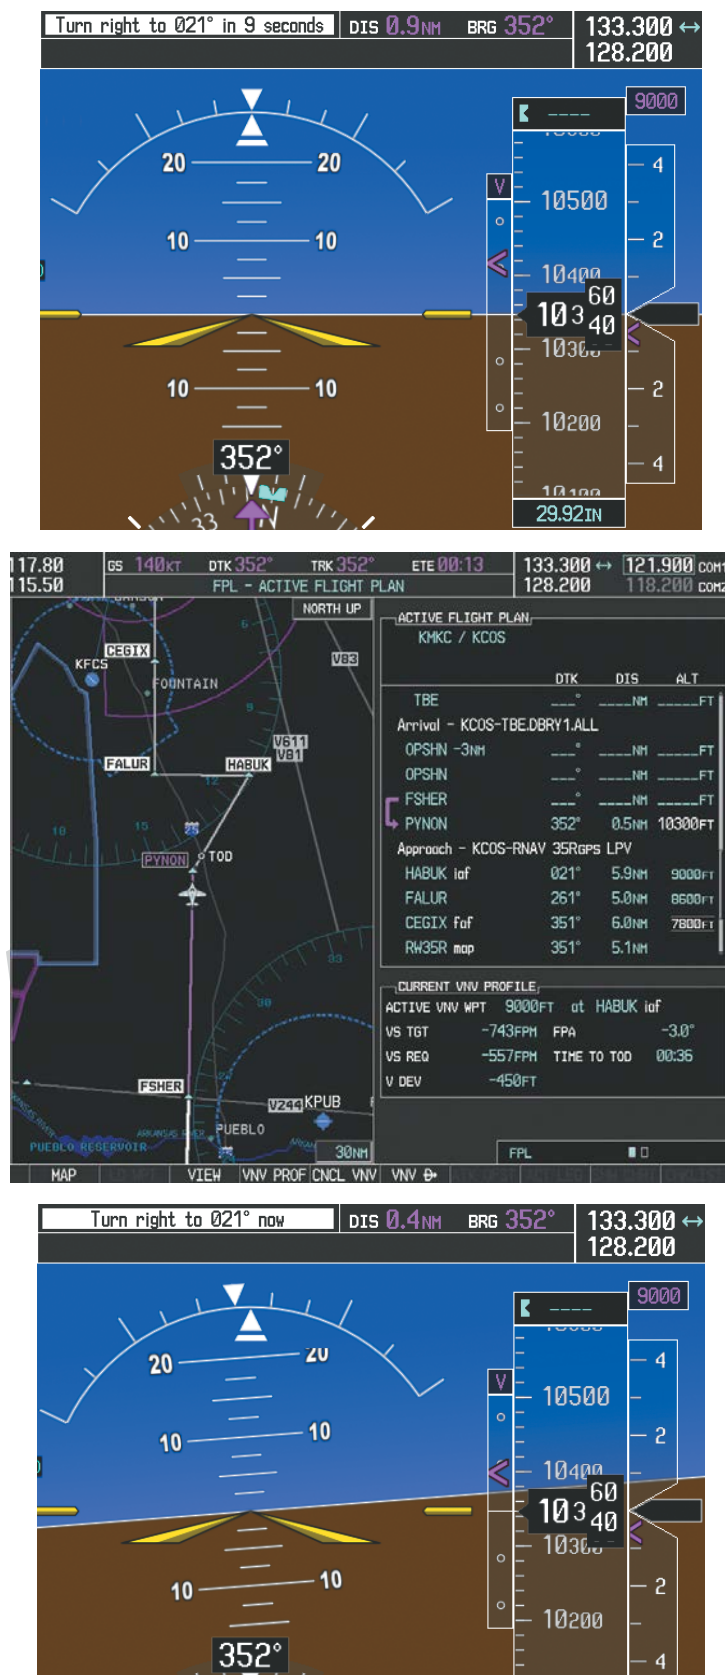

Figure 5-133 Approaching PYNON
- 20) The flight continues through the arrival procedure to PYNON (see Figure 5-133). At a point 31 nm from the destination airport, the phase of flight scaling for the CDI changes to Terminal Mode and is annunciated by displaying 'TERM' on the HSI.